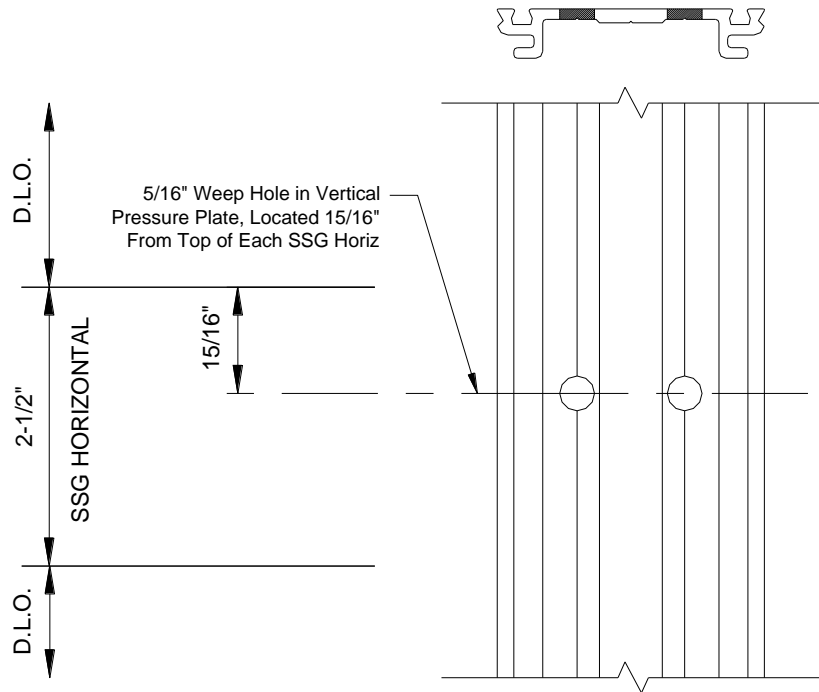

Figure 43: Vertical Weep Holes
- 18.1 Drill a 5/16" diameter weep hole on the V-groove on each side of vertical pressure plate as shown on **FIGURE 43**.